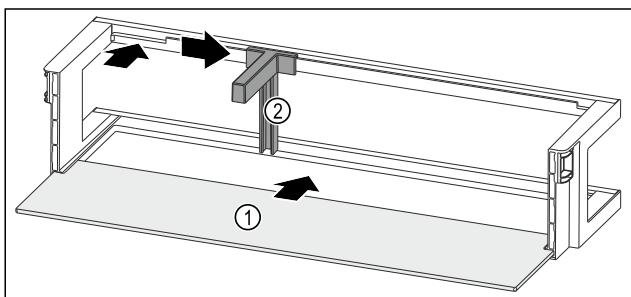

Fig. 114 Door rack with shelf
- ▶ Push the shelf Fig. 114 (1) into the side recesses.
- ▶ Insert the bottle holder Fig. 114 (2) in the recess.
- ▶ Push the bottle holder Fig. 114 (2) to the desired position to the side.